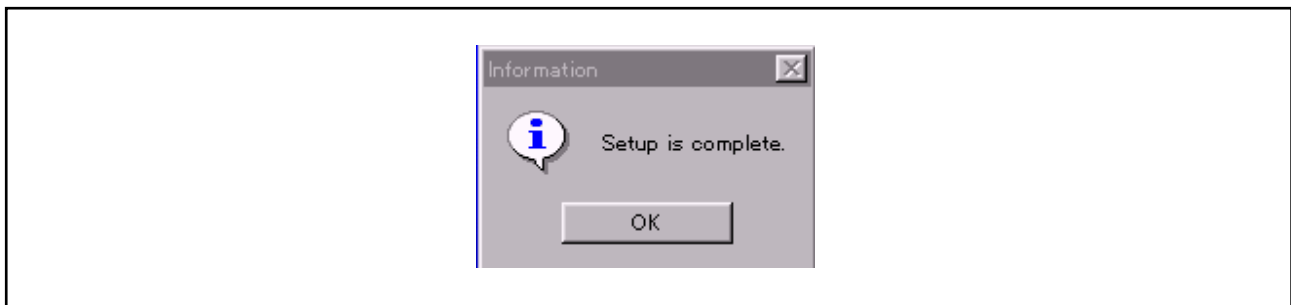

Figure 6.1 Dialog Box when Installation is Finished
- (1) Run pd32rmv301r00_e.exe that is included in the Eng \ Tool \ Pd32rm directory of the CD-ROM.
- (2) Proceed to install M3T-PD32RM following messages on the installation screen..
- (3) When you finished installing M3T-PD32RM, the dialog box shown in Figure 6.1 appears.